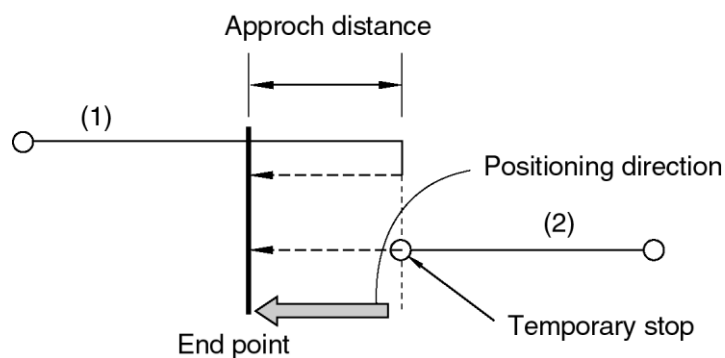

Fig. 4.25
- ◎ When this command is given, the NC unit performs the following operations depending on moving directions. (See Fig. 4.25.)
(1) If positioning is executed in the opposite direction against the determined direction